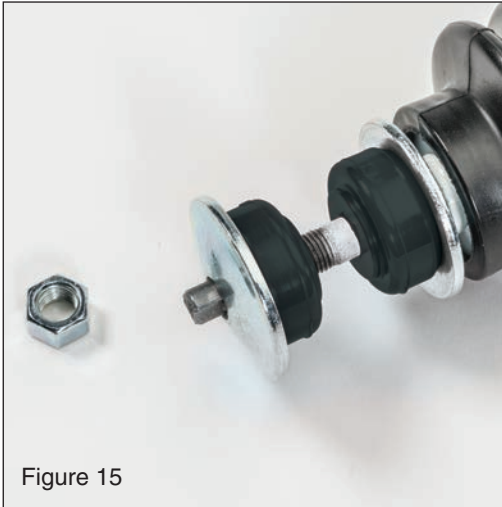

Figure 15
*Locate and assemble front shocks as shown (see FIG 15 & 16). Install into original opening at top mount and torque to 20 ft lbs using a 9/16" socket.*